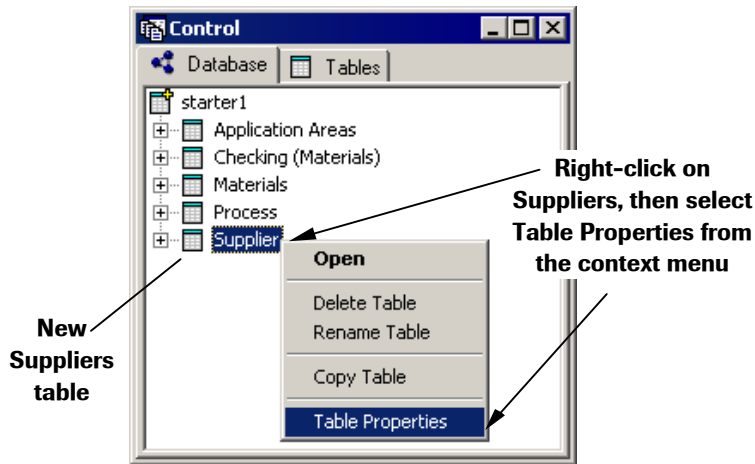

Fig. 10.12 The *Control* window showing the new Suppliers Table.
**Either:** Right-click on the Suppliers table entry on the Database tree, and select the 'Table Properties' option from the context menu (figure 10.12);